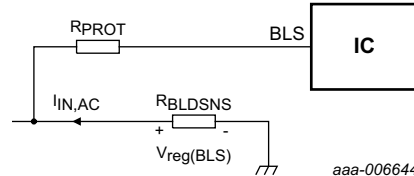

Fig 5. External components at the BLS pin
- A weak bleed current is generated to keep the dimmer in conduction when triggered. The generation of the weak bleed current is achieved when the total current to the dimmer is fed through a sense resistor R_{BLDSNS} (see Figure 5). The